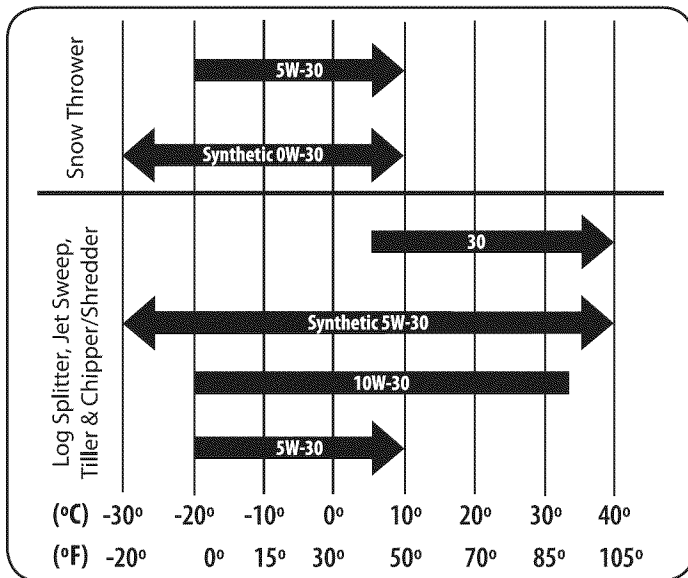

Figure 22
Refer to the viscosity chart (Figure 22) for oil recommendations. Do not over-fill. Use a 4-stroke, or an equivalent high detergent, premium quality motor oil certified to meet or exceed U.S. automobile manufacturer's requirements for service classification of a minimum level SF or SG (higher letter ratings are acceptable such as SJ, SL and SM grades). Motor oil will display this designation on the container.
11. Fill with the recommended oil. See Figure 22.